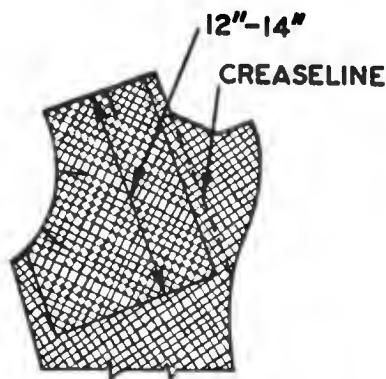

Fig. 107. Piece for the hollow of the shoulder.
A. Cut this piece about  $\frac{1}{2}$  in. within the creaseline, about 12 to 14 in. long (Fig. 107).